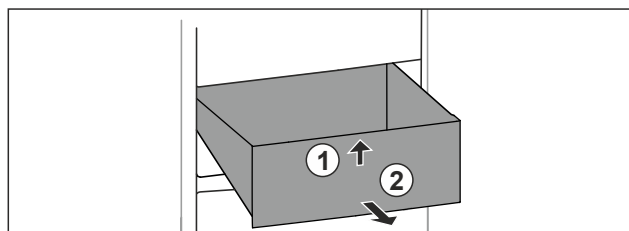

Fig. 97
- Lift up drawer at the front. *Fig. 97 (1)*
- Remove drawer to the front. *Fig. 97 (2)*